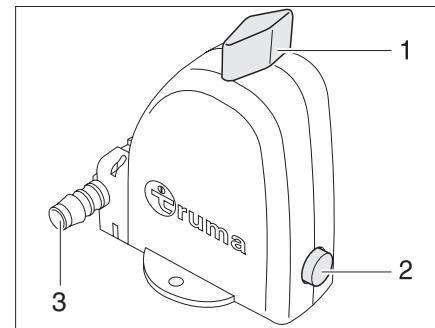

Fig. 114 Safety/drainage valve of the boiler - Operation position
The boiler is equipped with a safety/drainage valve (Fig. 114). The safety/drainage valve prevents water in the boiler from freezing, when there is frost and the heater is not switched on. If there is a danger of frost (at approx. 3 °C ambient temperature), the water is drained intermittently at overpressure via a drain neck. The safety/drainage valve cannot be closed manually until the ambient temperature lies within the frost-proof range (approx. 7 °C ambient temperature).
The drainage neck (Fig. 114,3) of the safety/drainage valve has to be free of dirt (e.g. leaves, ice) at all times.
- Turn the knob (Fig. 114,1) 90° lengthwise to the safety/drainage valve.
The push button (Fig. 114,2) trips. The boiler is drained to the outside by the drainage neck (Fig. 114,3) of the safety/drainage valve.
- ▶ Turn the knob (Fig. 114,1) 90° crosswise to the safety/drainage valve.
- ▶ Push in the pushbutton (Fig. 114,2).